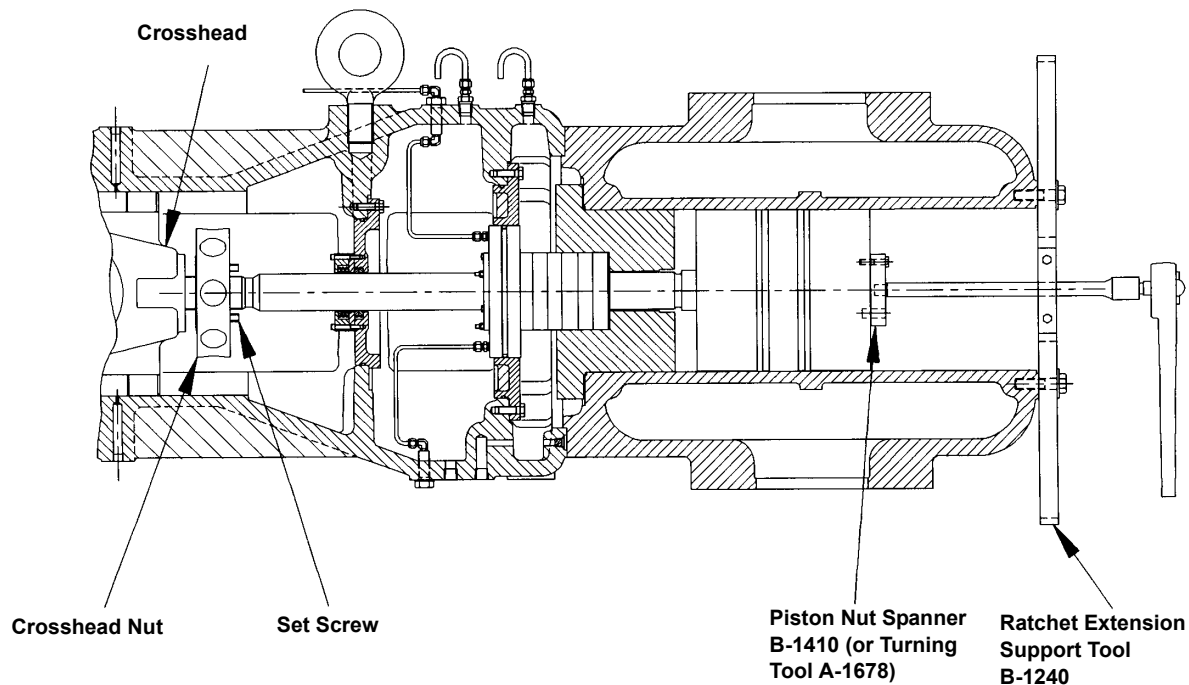

FIGURE 5-26: PISTON AND ROD INSTALLATION - TYPICAL
5. Use the Piston Nut Spanner or Turning Tool to screw the piston and rod assembly out of the crosshead, see Figure 5-26: on Page 5-40. The two dowels on the tool fit the holes in the piston nut. Turn the crosshead nut off the piston rod.